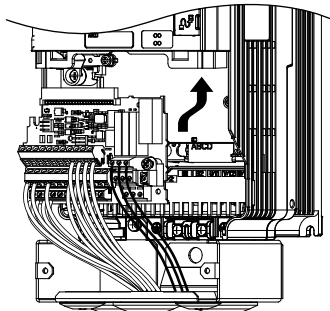

Figure 6.5 Install the Terminal Board
1. After wiring the main circuit, connect the terminal block to the drive as shown in Figure 6.5. Use the installation screw to fasten the terminal block into place.